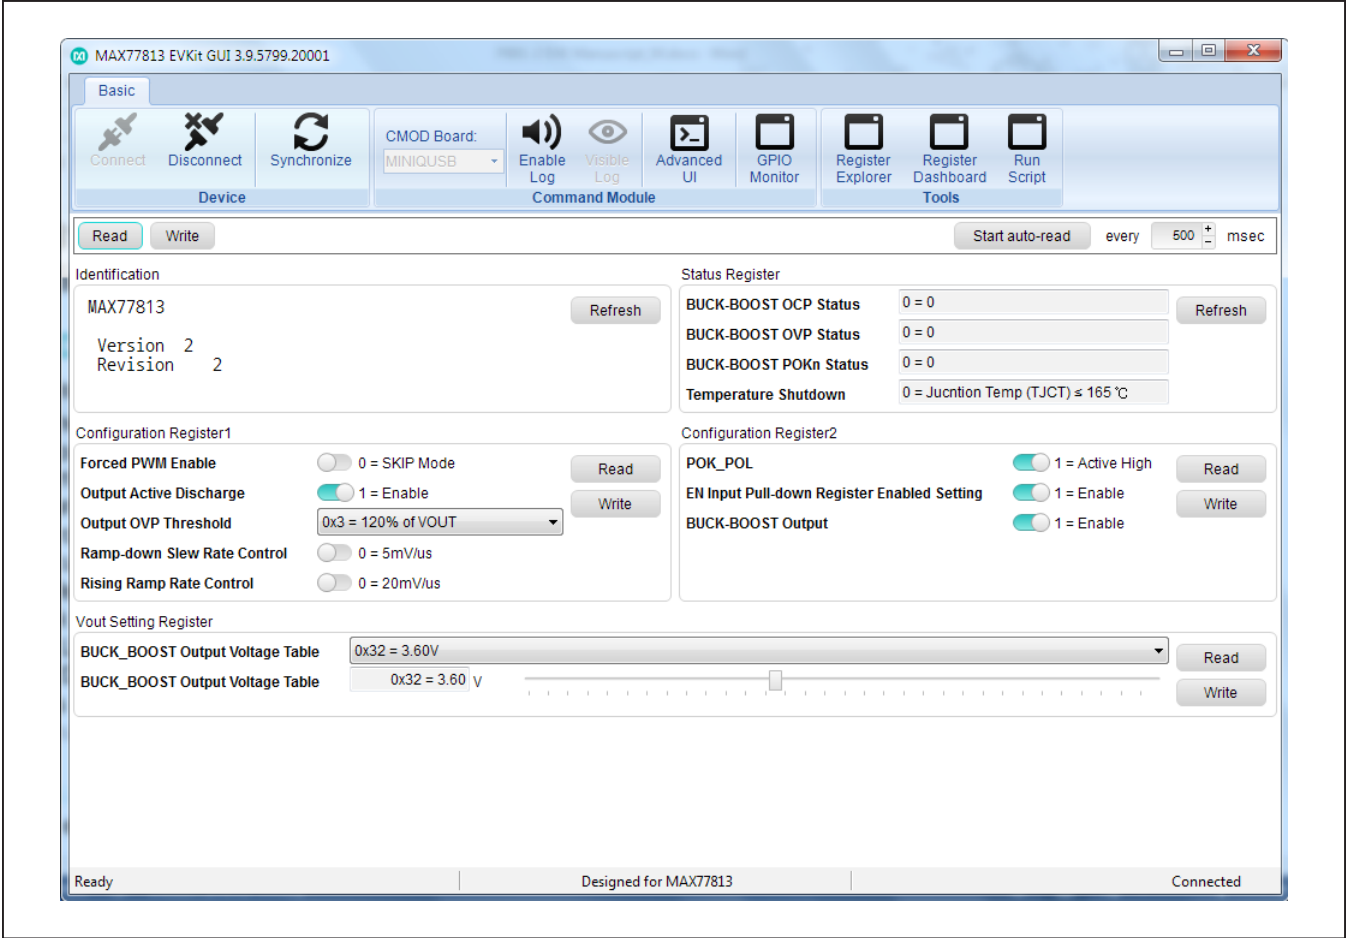

Figure 3. MAX77813 Evaluation Kit Software Window (CHIPID/STATUS/CONFIG Tab)
- 11) Start the EV kit software by opening its icon in the **Start | Programs** menu. The EV kit software main window appears, as shown in Figure 3.
The GUI shown in Figure 3 is the main window of the EV kit software that provides a convenient means to control the IC. Use the mouse to navigate through the GUI controls.